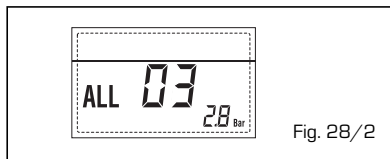

Fig. 28/2
**- ANOMALIA SONDA SANITARIO "ALL 04" (fig. 28/3)**